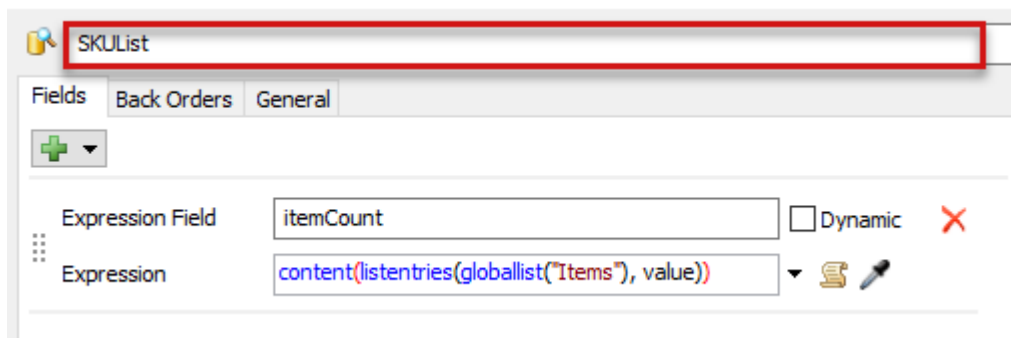

Figura 15- Global list SKUList
- Adicionar um field> Expression> Expression Field = itemCount> Expression = content(listentries(globallist("Items"), value)), observar detalhes na Figura 15.